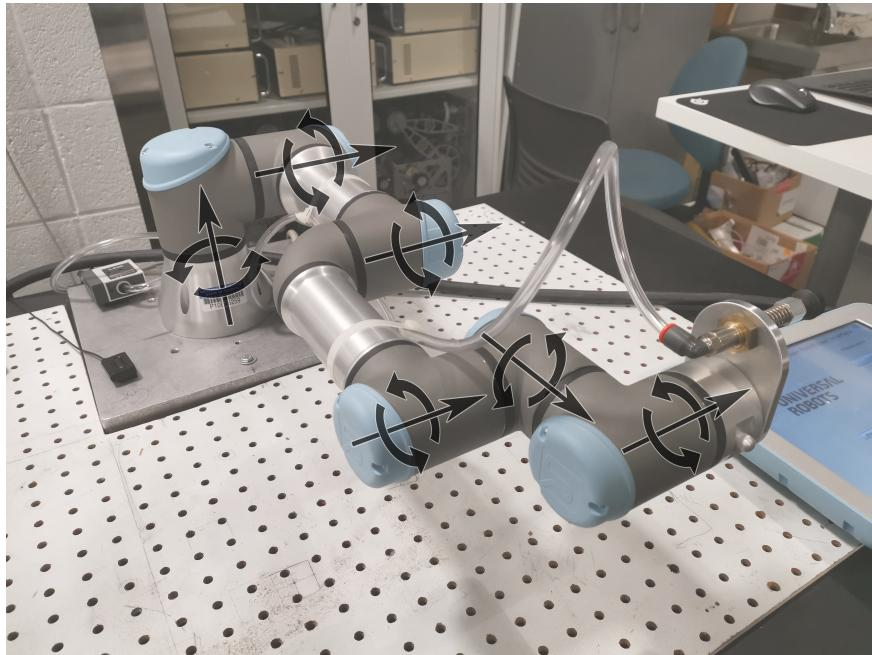

Figure 3.3: Screw axes on UR3.
- Figure 3.3 shows the screw axes and direction of rotation (use the right rule) for each joint.